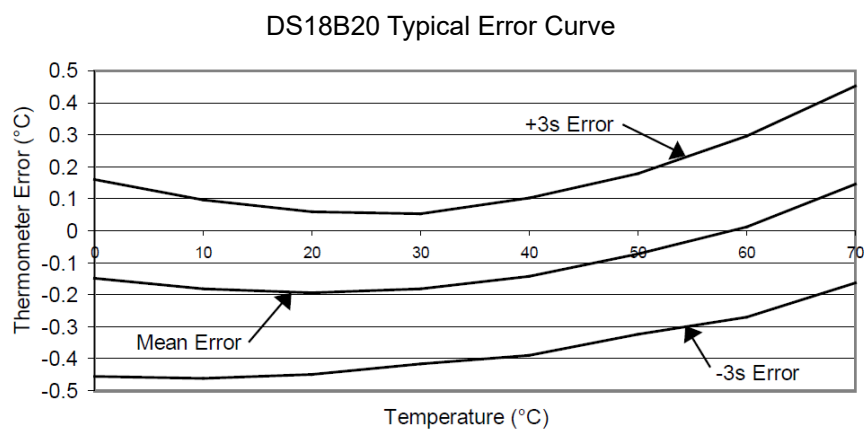

Figure 17. Typical Performance Curve
- 3) See typical performance curve in Figure 17.